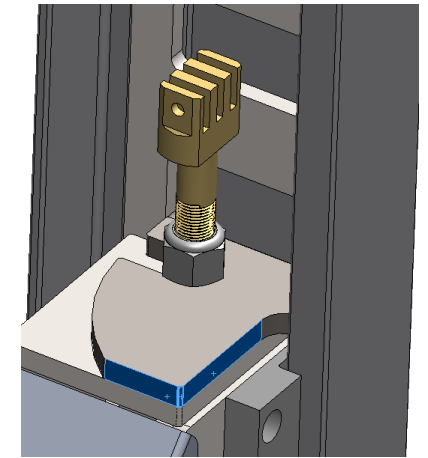

Figure 11
19. Test fit the lift side stop plate on the top plate of the front support side cross-beam and the rear support side cross-beam by tilting the plate up inside the post and then sliding it down with the slot around the anchor as shown in *Figure 11*. Mark the outline of the lift side stop plate around the large radius edge and the slot, then remove the plate.
21. Install the lift side stop plate on the front lift side cross-beam and the rear lift side cross-beam by tilting the plate up inside the post and then sliding it down with the slot around the anchor. Place the stop plate so that the edges highlighted in *Figure 11* are flush with the existing top plate.